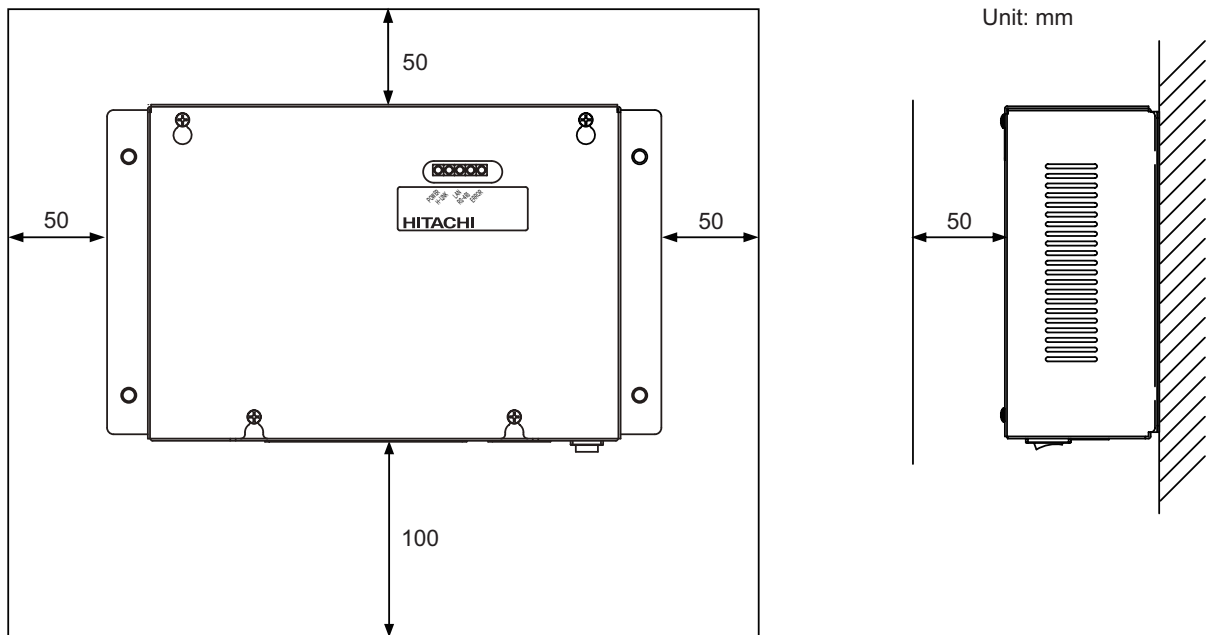

Figure 4.1: Installation Space
- ☐ (1) Secure free space as illustrated in Figure 4.1.